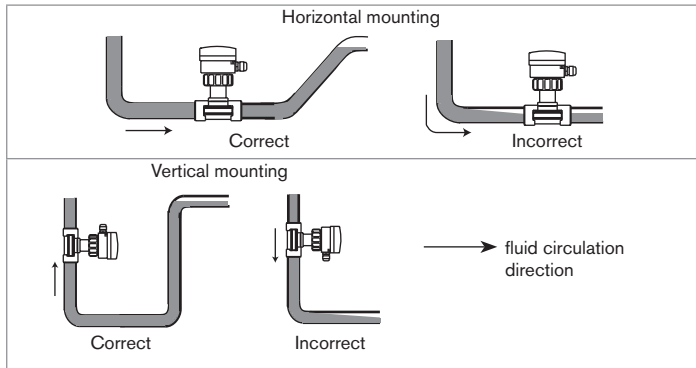

Fig. 9 : Filling the pipe
- Ensure that the pipe is always filled up to the transmitter (see Fig. 9) ;
- ensure that the fluid flow direction is ascending in vertical mounting (see Fig. 9) ;